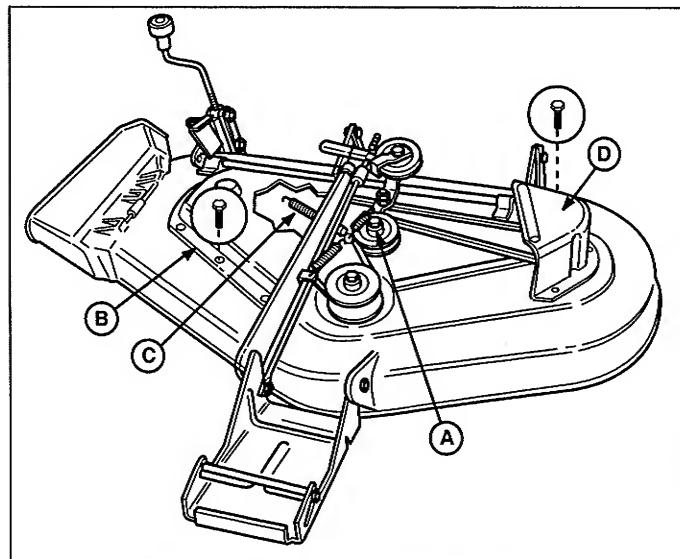

Figure 55. Mower Deck - 44" & 50" Mowers
- See Figure 55. Remove three capscrews securing left-hand arbor cover (D).
- See Figure 55. Reinstall the left-hand arbor cover (D). Reinstall the mower deck if removed.
5. Loosen capscrew (A, Figure 55) securing the idler pulley to the bracket. The belt can now be slipped between the pulley and idler bracket hub.
7. Tighten the capscrew (A, Figure 55).